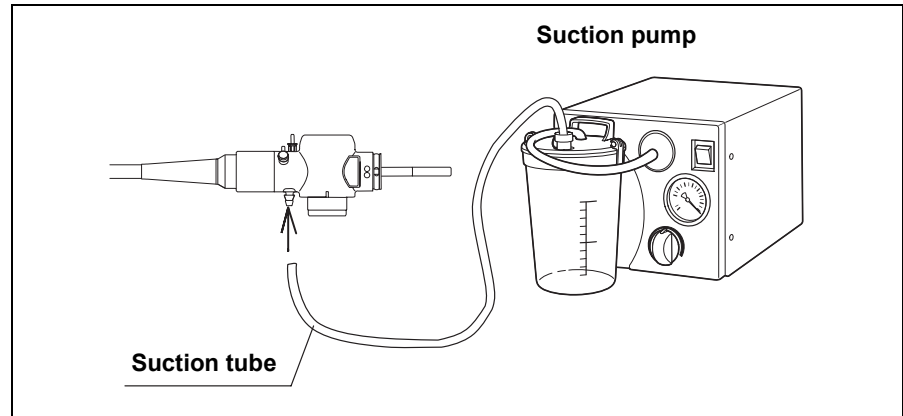

Figure 3.18
7. Connect the suction tube from the suction pump to the suction connector on the endoscope connector (see Figure 3.18).